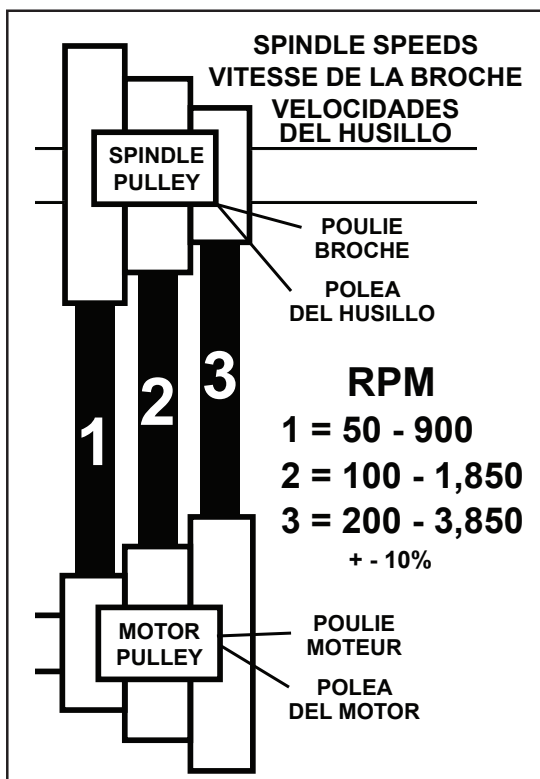
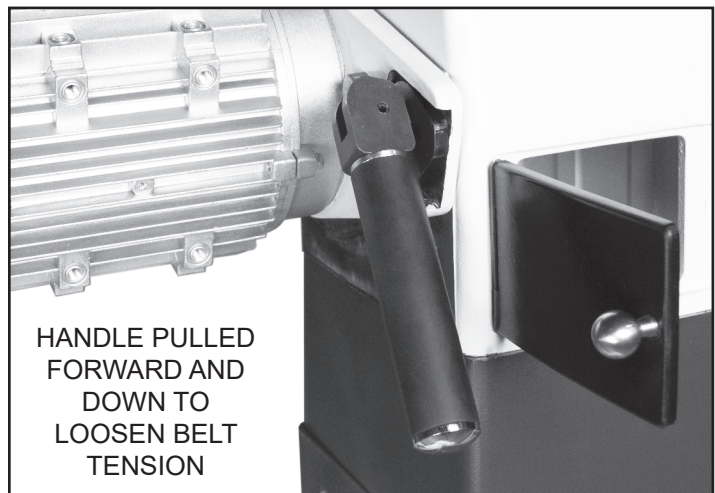

FIG. 30
FIG. 33
To change between the 3 speed ranges, Figure 30, the position of the drive belt on the motor and spindle pulleys must be changed. To do this:
4. Push the Tensioning Handle down to loosen the tension on the Poly-V-Belt (#2B). FIG. 33. The belt can now be positioned on the pulleys for the desired speed range. FIG. 30 shows the belt positions for the three speed ranges.